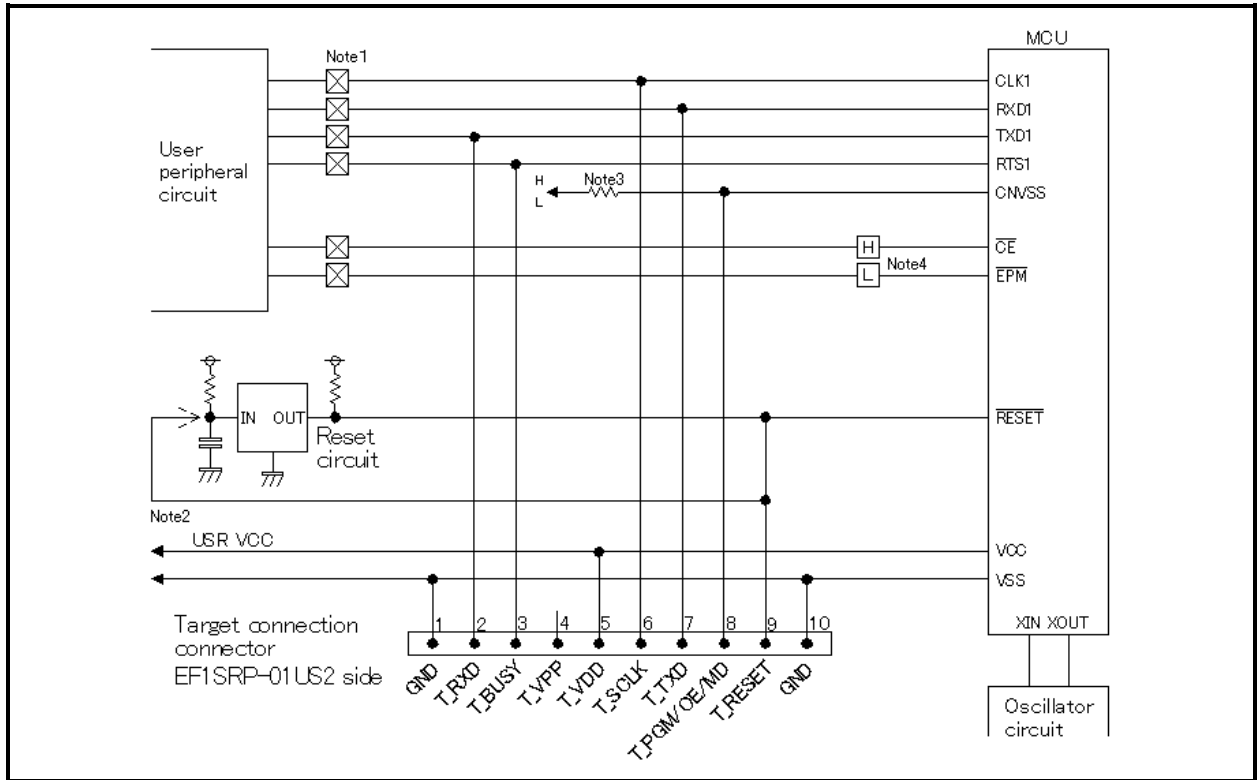

Fig.4.1: User Target Peripheral Circuit Example (recommended)
(1) A recommended sample of user target MCU peripheral circuit for M32C/83 is shown in Fig.4.1.